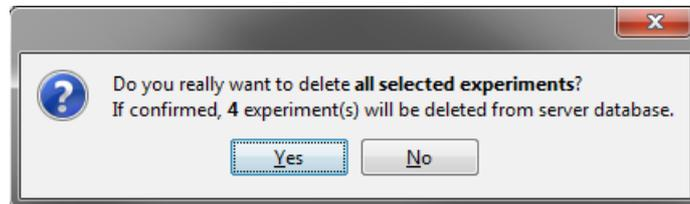

Fig. 9: Experiment delete confirmation
- <Ctrl>-<Shift>-<Delete> key pressed – After confirmation, all experiments in panel are deleted. (Fig. 9)